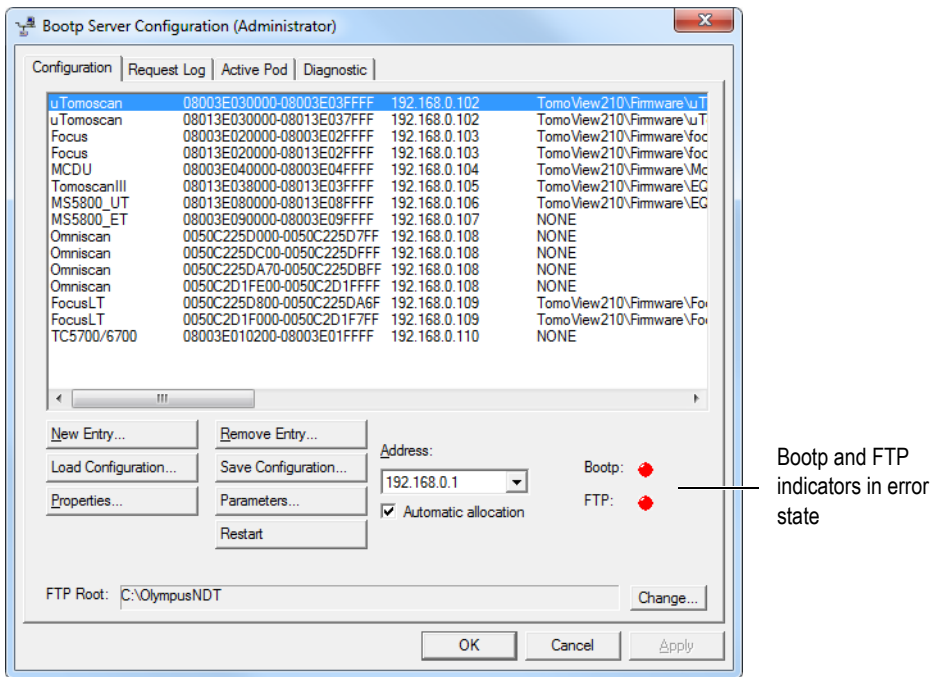

Figure 9-2 The Boot Server Configuration dialog box in error state
- g) In the **Bootp Server Configuration (Administrator)** dialog box, when the **Bootp** or the **FTP** (file transfer protocol) indicator is red, click **Restart** (see Figure 9-2 on page 438).